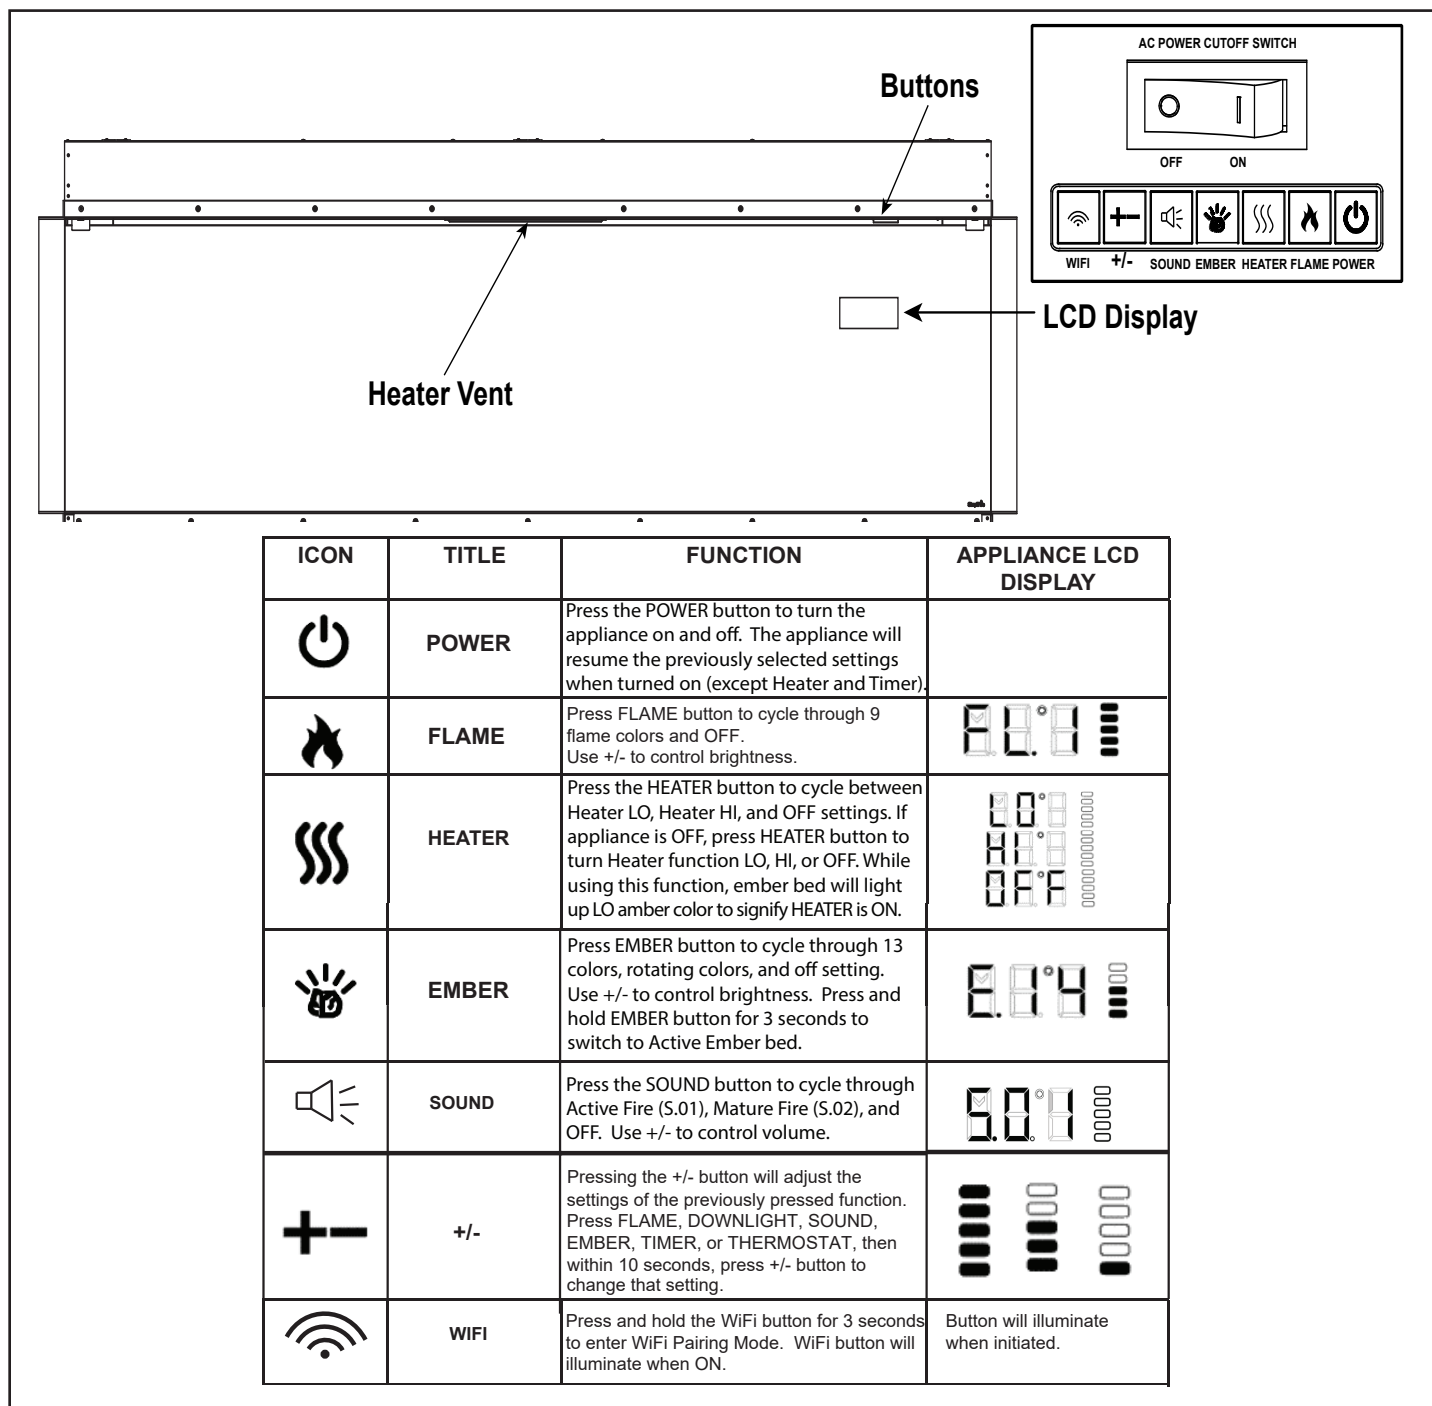

Figure 5.1 Manual Operating Switches and Indicator Lights
Once the circuit breaker is switched ON, the AC power cutoff switch can be switched to the 'ON' position. A beep should be heard when power is first applied. See Figure 5.1.
- The remote uses radio frequency so it does not have a specific field -of-view requirement. See Figure 5.1.